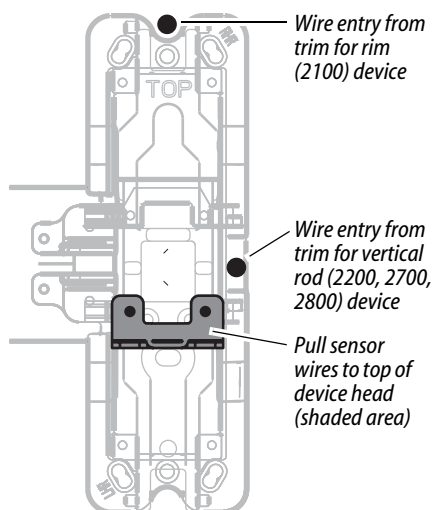

Figure 23 Pulling sensor harnesses to the top of the device head
- 1 Pull wires from the sensor harness, door position switch, latchbolt switch, and touchbar switch to the top of the device head as shown in Figure 23.